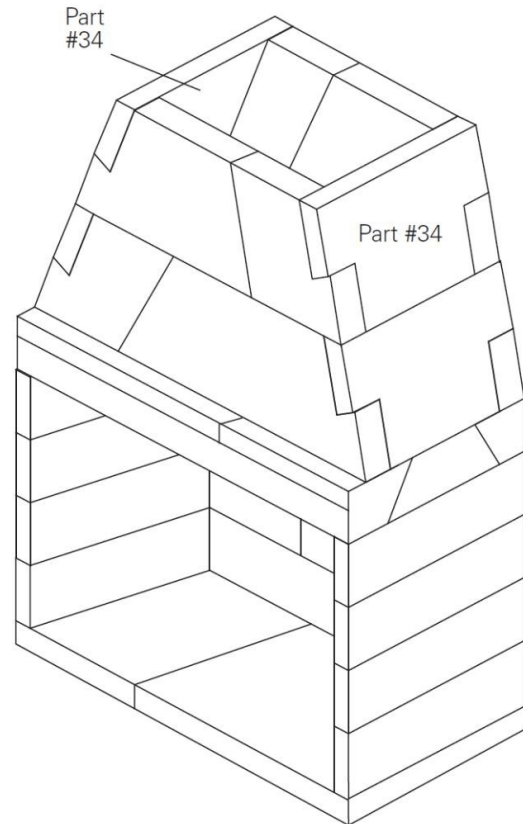

FIGURE 25
10. Position the second tier of smoke dome’s sloping sidewalls at each end of the smoke dome components. The sloping sidewalls fit in between the front and rear smoke dome components and also fit into the haunches at the ends of the front and rear smoke dome components. Earthcore adhesive all contact surfaces thoroughly. The smoke dome sloping sidewalls have a beveled bottom edge so that they will sit tight onto the flat top of the damper beam assembly. **(Figure 25)**